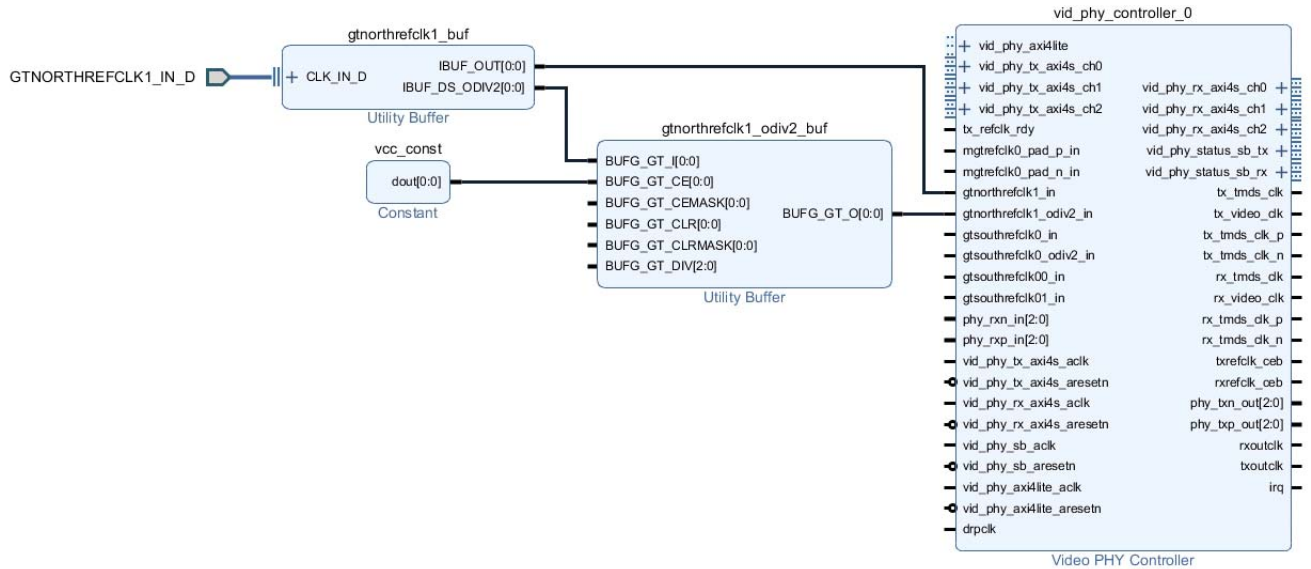

Figure 3-6: North Reference Clock
- gtnorthrefclk1_in: This port is the GT Channel or CPLL clock and must be connected to the IBUF_OUT port of the IBUFDSGTE GT input clock buffer. See Figure 3-6.
- gtnorthrefclk1_odiv2_in: This port is the fabric clock and must be connected to the BUFG_GT_O port of the BUFG_GT buffer which is being driven by the IBUF_DS_ODIV2 output of IBUFDSGTE GT input clock buffer. See Figure 3-6.